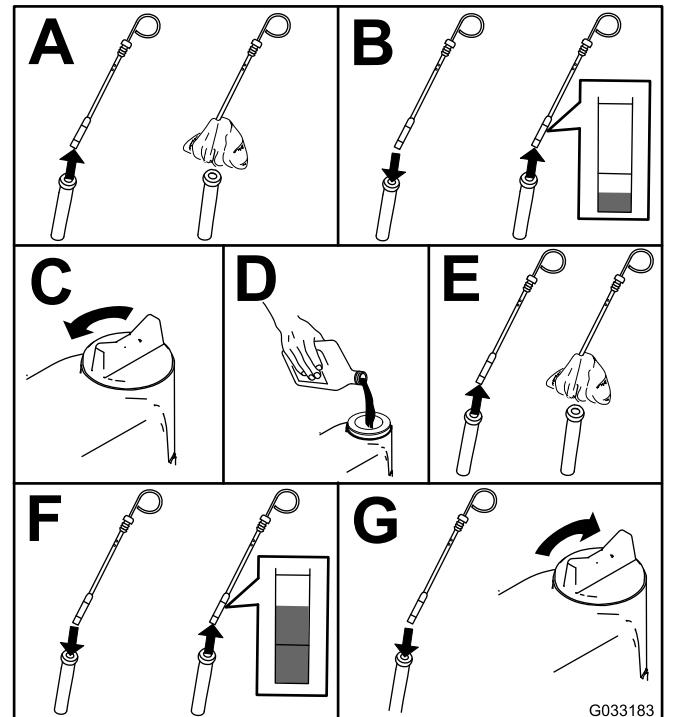

Figure 71
2. Check the engine-oil level (Figure 71).